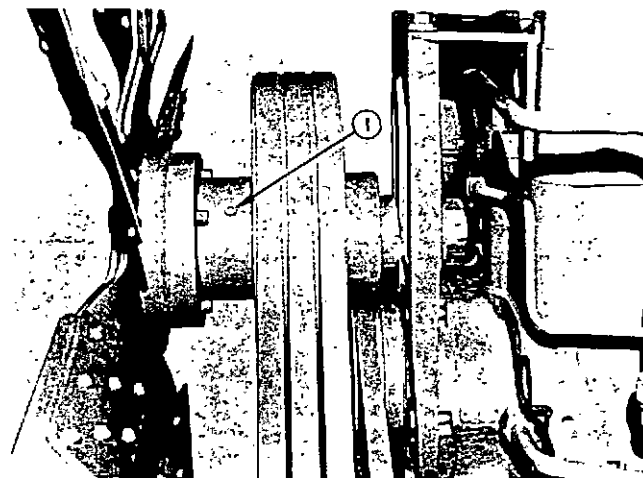

Fig. 5-39, N11932. Fan hub lubricating point
1. If water pump and fan hub contain grease fittings or plugs (1, Fig. 5-39) through which grease may be applied, give one "shot" (approx. 1 tablespoon) each "C" Check.